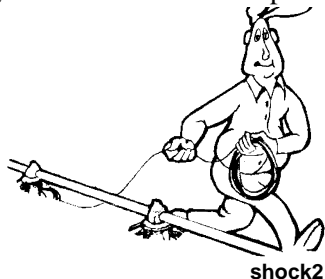

Figure 56.Unrolling the Cable
1. Unroll the bulk anti-roost cable. Note: If the cable is unrolled as shown in **Figure 56**, taking 5 loops of the coil with one hand, then changing hands to remove 5 loops as it is unrolled, it will lie flat during installation.